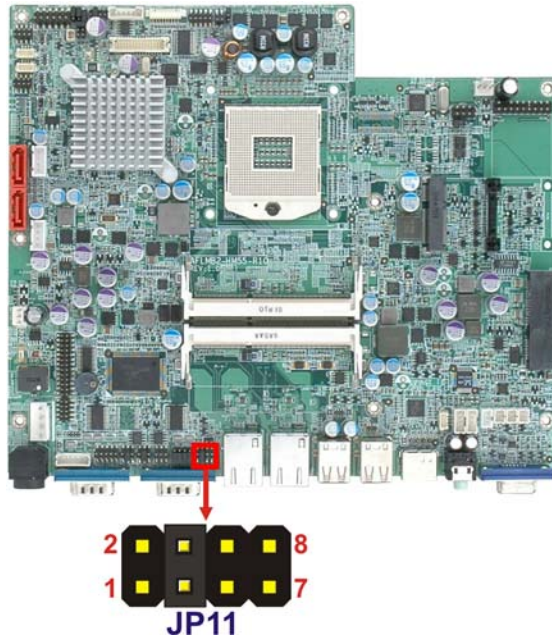

Figure 3-11: COM3 RX Function Select Jumper Location
- Jumper Location:** See **Figure 3-11**
The COM3 RX Function Select jumper location is shown in **Figure 3-11**.